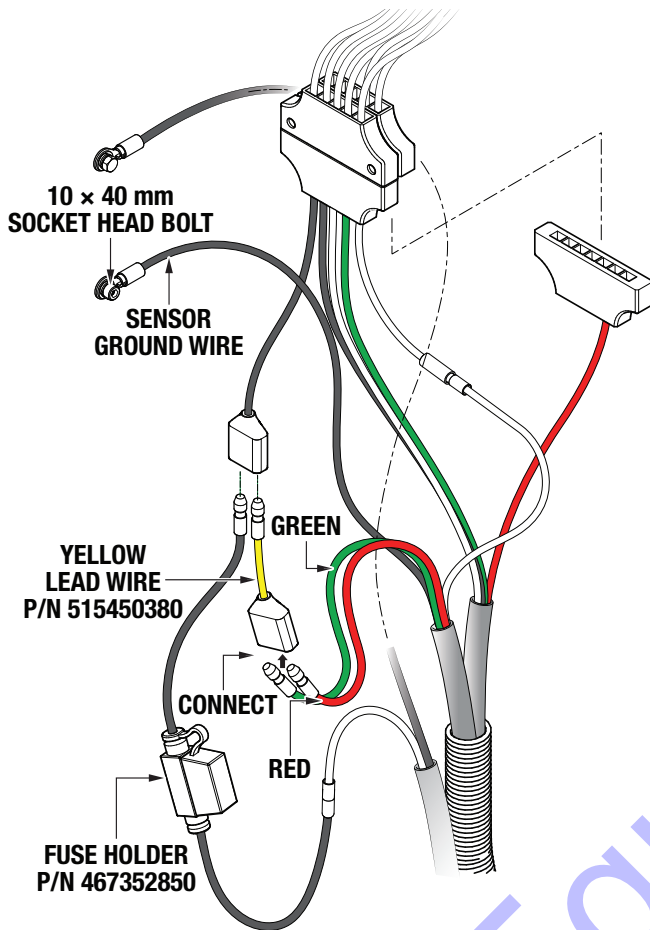

Figure 14. Wiring Connections (MVH308DZ/MVH408DZ)
3. Connect the disconnected red and green wires to the female, 2-pin end of the yellow lead wire (P/N 515450380). See Figure 14.
4. Connect the free, male end of the yellow lead wire (P/N 515450380) to either of the open, female ports on the connector from which the red and green wires were just removed. See Figure 14.
5. Connect the free, male end of the fuse holder (P/N 467352850) to the remaining available port on the connector from which the red and green wires were just removed. See Figure 14.